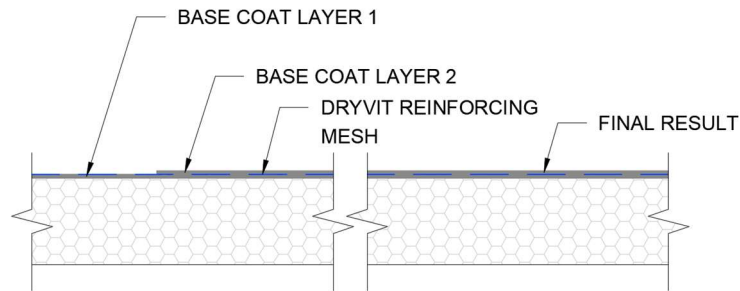

Fig. 32
- 3) Allow the base coat mixture to set up until firm to the touch. Trowel a second coat of the base coat mixture (not to exceed a total thickness of 3/16") over the first coat to fully cover the reinforcing mesh – **Figure 32**. The result should be such that the reinforcing